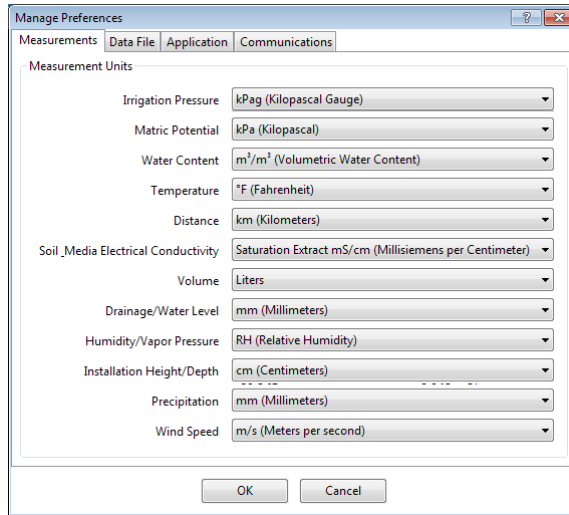

Figure 19 Measurements tab
- Measurements Tab (Figure 19):